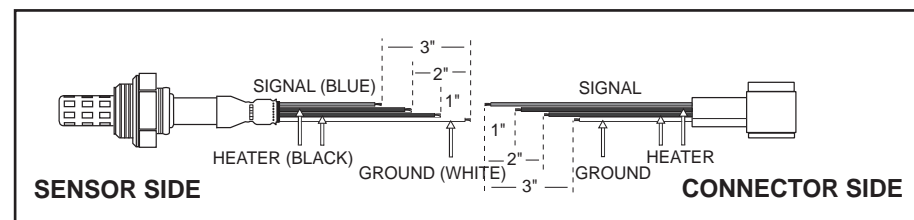

Fig. 1
6. With the two sensors laid out side by side, cut off the original sensor so overall length will be **3"- 4" longer than before**. (See Fig. 1) This will allow connections to be made at evenly spaced intervals so the heat shrink tube can fit over the butt connections and the finished overall length to match the original.